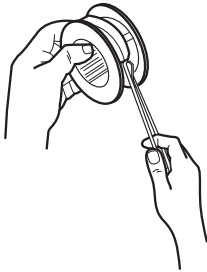

Fig.16c
- > Cut a new trimming line. Form a loop at the middle of the line and insert this loop into the hook on the spool (Fig. 16c).